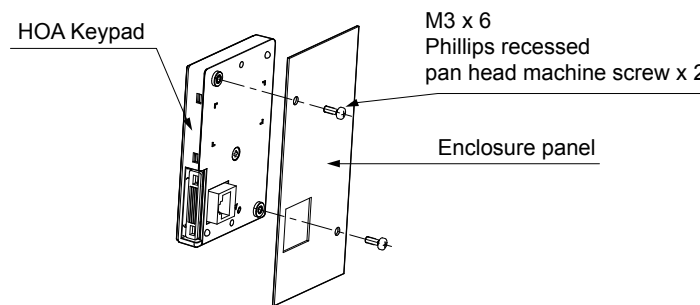

Figure 2.14 External/Face-Mount Installation
2. Position the HOA keypad so the display faces outwards, and mount it to the enclosure panel as shown in Figure 2.14.